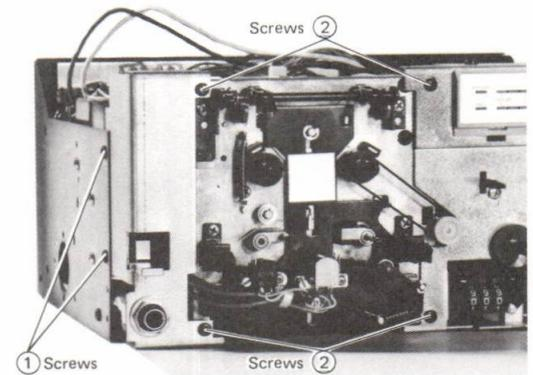

Fig. 5
- (5) Unscrew the 2 screws (1) and 4 screws (2) as shown in Fig. 5. The mechanical section can be drawn out by moving its front panel leftward.